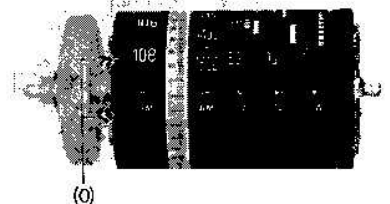

Fig. 9
- ※3. • Loosen the two (2) screws (O) for the dial scale gear, as shown in fig. 9.